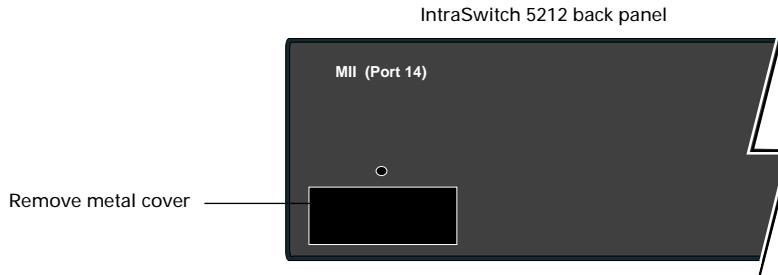

Figure 2-2 Asanté MII expansion slot
- 1 Unscrew the metal cover from the front of the Asanté MII expansion slot (located on the IntraSwitch 5212's back panel) using a small Phillips screwdriver. See Figure 2-2.